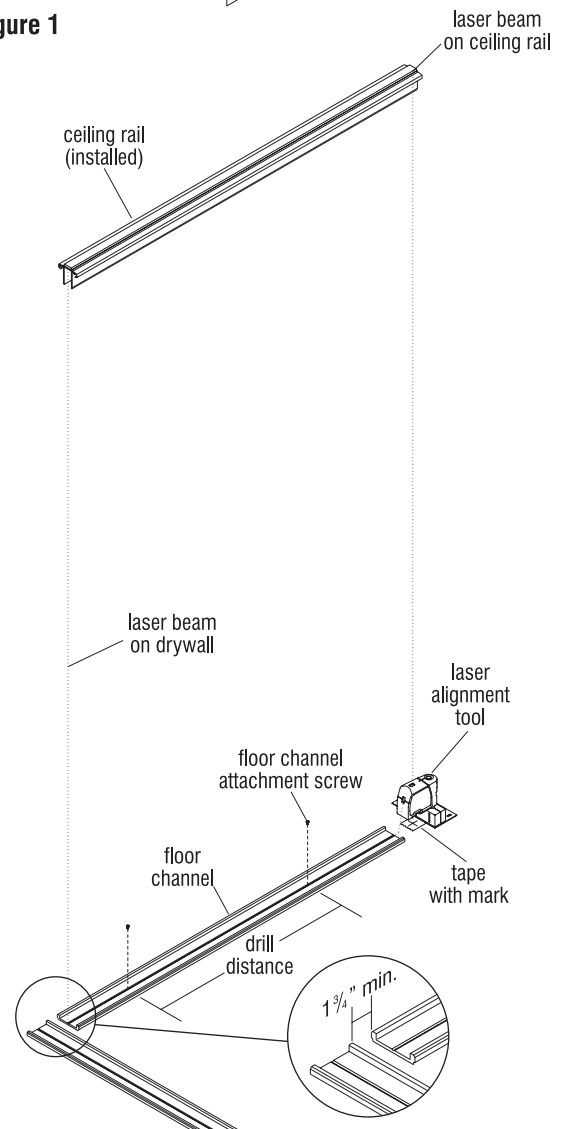

Figure 2
2. Place the floor channel on the laser alignment mark (Figure 2).
4. Repeat steps one and two for installing additional floor channels, directly below ceiling rails (Figure 2).